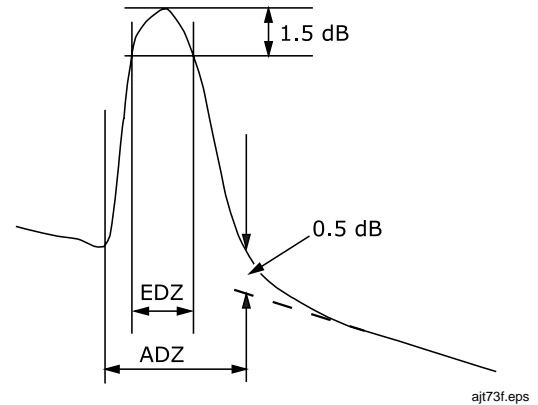

Figure 38. Event and Attenuation Deadzone Measurement Methods⁵
<p>2. Measured at 1.5 dB below reflection peak for typical connector with UPC polish (reflectance < -37 dB multimode) using narrowest pulse width (4 ns at 850 nm; 8 ns otherwise) at near end (100 m, which excludes dispersion). See Figure 38.</p> <p>3. Measured at ± 0.5 dB beyond backscatter for typical connector with UPC polish (reflectance of < -37 dB multimode) using 40 ns pulse width (20 ns at 850 nm) at near end (100 m, which excludes dispersion). See Figure 38.</p> <p>4. Distance ranges for typical fiber loss. For typical fiber with backscatter coefficients of -67 dB at 850 nm and -74 dB at 1300 nm. Manual mode provides a nominal 8 km range for multimode; however, the typical ranges for measuring loss are shown here.</p> <p>5. SNR=1 method. Subtract 1.8 dB to compare to Telecordia 98 % method.</p>
1. For singlemode: measured at 1.5 dB below the reflection peak for a typical singlemode UPC connector (< -50 dB reflection using 5 ns pulse width). Refer to Figure 38.
2. For singlemode: measured at ±0.5 dB beyond the backscatter for a typical singlemode UPC connector (< -50 dB reflection using 20 ns pulse width). Refer to Figure 38.